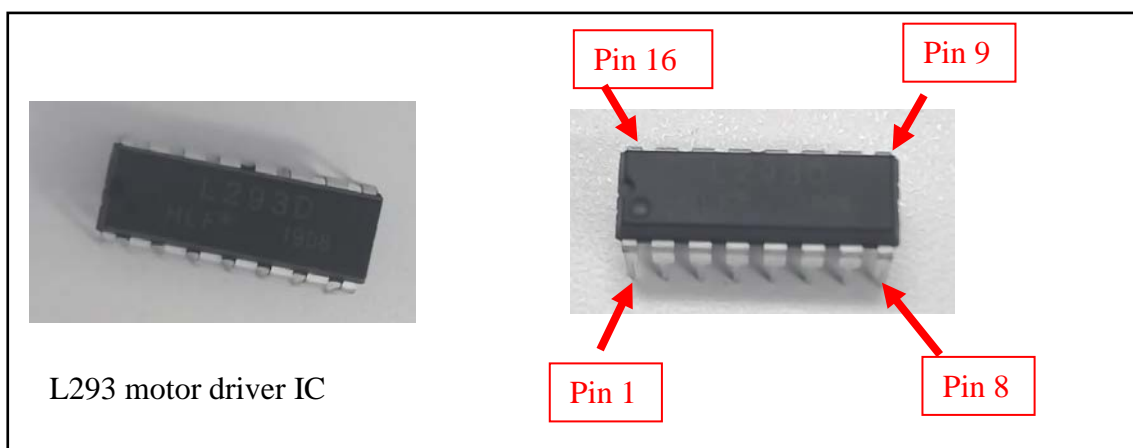
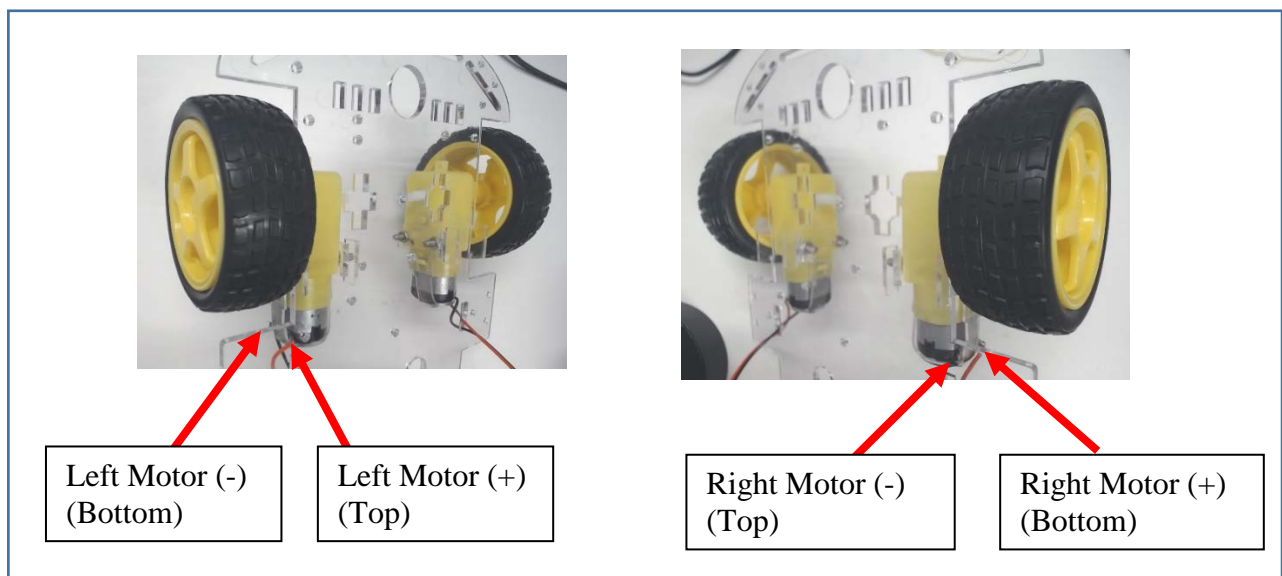
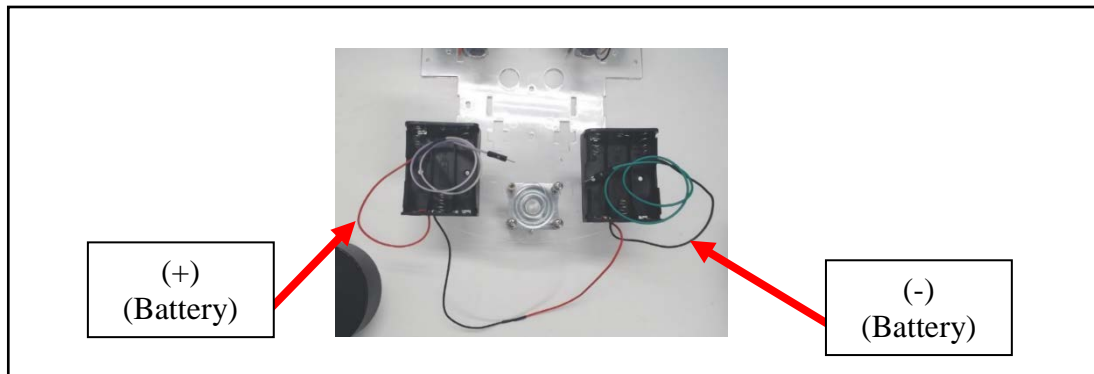

Fig. 26
Fig. 27
Fig. 28
5.2.8. The L293 motor driver IC is shown in Fig. 26. The motor wiring diagram is shown in Fig. 27. The AA battery compartment is shown in Fig. 28. Connect the motor driver circuit as shown in Fig. 29, and put all the components on the breadboard as shown in Fig. 30 and Fig. 31. You could refer to the video (video10-motor\_driver\_circuit.mp4) for demonstration.